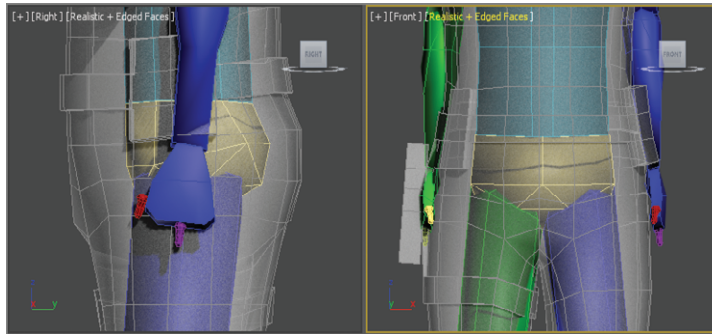

FIGURE 12.6 Match the positions of the biped pelvis and the model pelvis.
7. Use the Body Vertical and Body Horizontal buttons in the Track Selection rollout and the Move Transform gizmo to position the biped's pelvis in the same location as the model's pelvis, as shown in Figure 12.6.